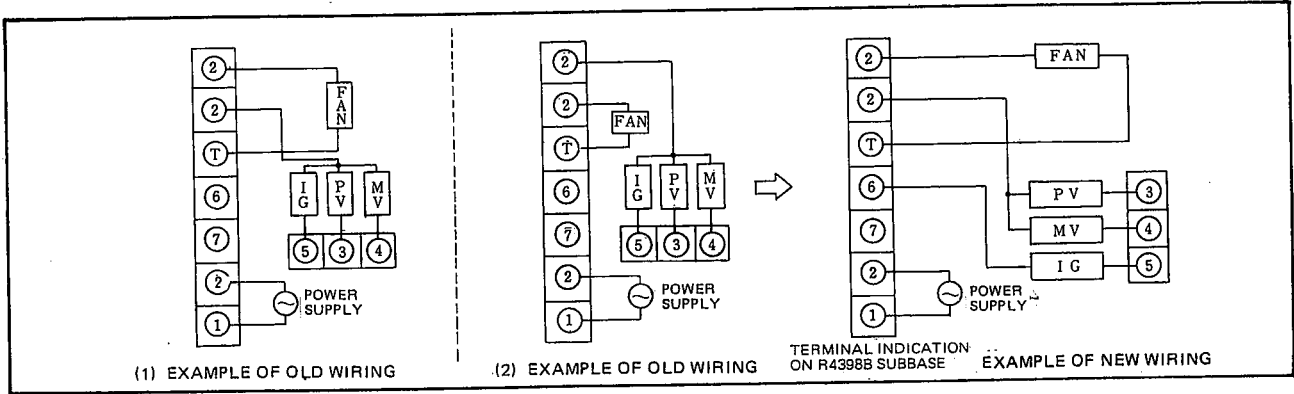

Fig. 6 Method of changing over wiring (when using R4398B subbase)
- (1) Remove R4398B from the subbase.
- (2) Sometimes, in the case of a 200 VAC type R4398B, a green capacitor is connected between terminals ② and ⑥ of the subbase. If there is such a capacitor, remove it.
- (3) Confirm that the wiring to the subbase is either (1) or (2) shown in Fig. 6. If the wiring is as shown in (1), leave it as it is. If the wiring is as shown in (2), change it over to the configuration in the drawing at right indicated by the arrow.
- (4) Plug the R4750B into the subbase, then tighten the cover retaining screws. This completes the change-over work.